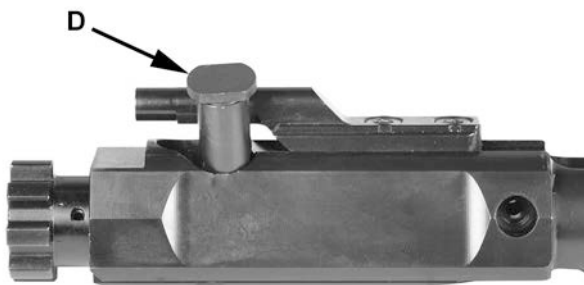

Figure 32
5. Remove bolt cam pin (D) from bolt carrier assembly. See figure 32.